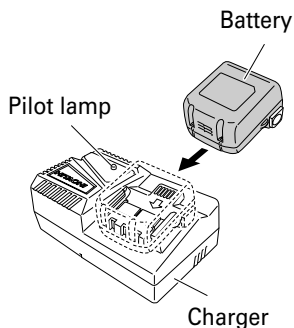

Fig. 4
2. Insert the battery to the battery charger. Firmly insert the battery into the battery charger as shown in Fig. 4.